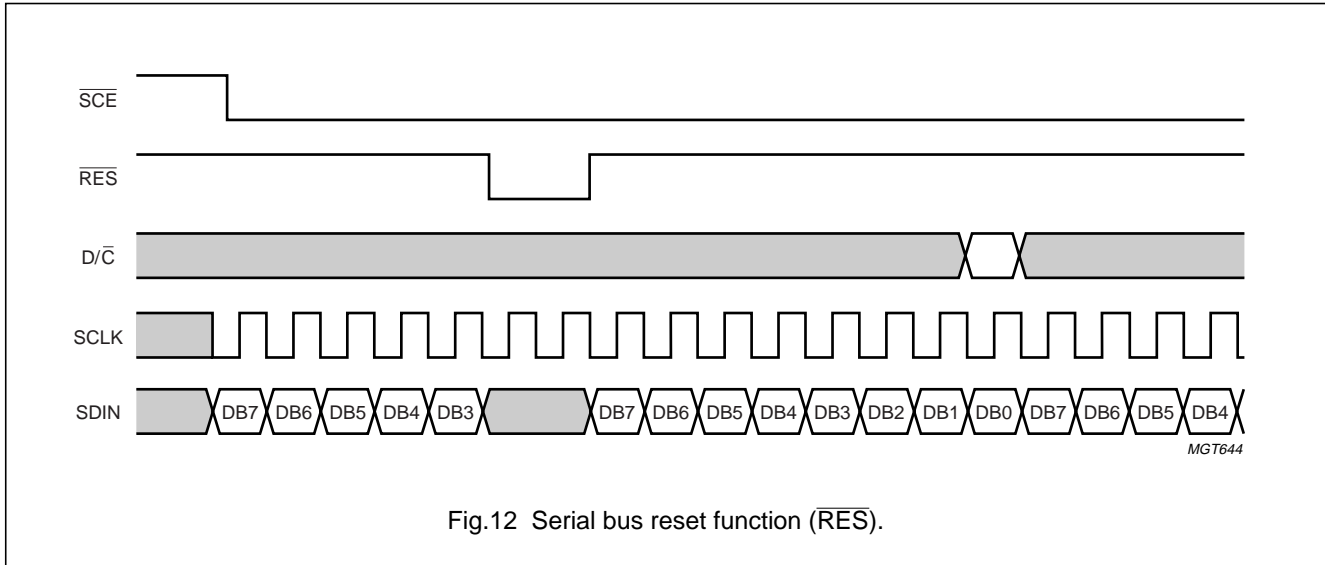

Fig.12 Serial bus reset function (RES).
- A reset pulse with \overline{RES} interrupts the transmission. The data being written into the RAM may be corrupted. The registers are cleared. If \overline{SCE} is LOW after the rising edge of \overline{RES} , the serial interface is ready to receive the $\overline{D/\overline{C}}$ bit of a command/data byte (see Fig.12).